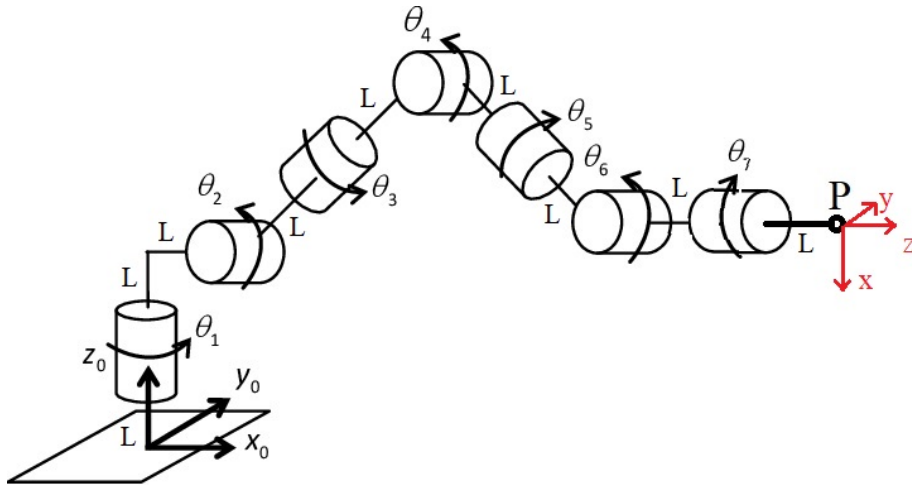

Figure 4: (From exercise 4) Schematic of a redundant manipulator.
3. Then take the manipulator depicted in Fig. 4 and write an **inverse kinematic solver** in Matlab for this robot (without using any of the functions pre-made in the matlab library, such as *IKinSpace*) and prove that your solver works correctly by **testing** for various configurations of your choice.
Hyper-redundant manipulators are manipulators with more than 6 Degrees of Freedom which are suitable for undertaking complex tasks; an example of this type of manipulators is given in Fig. 4. Write a series of Matlab scripts and provide clear written explanation in the text about all the mathematical steps to solve the following problems: